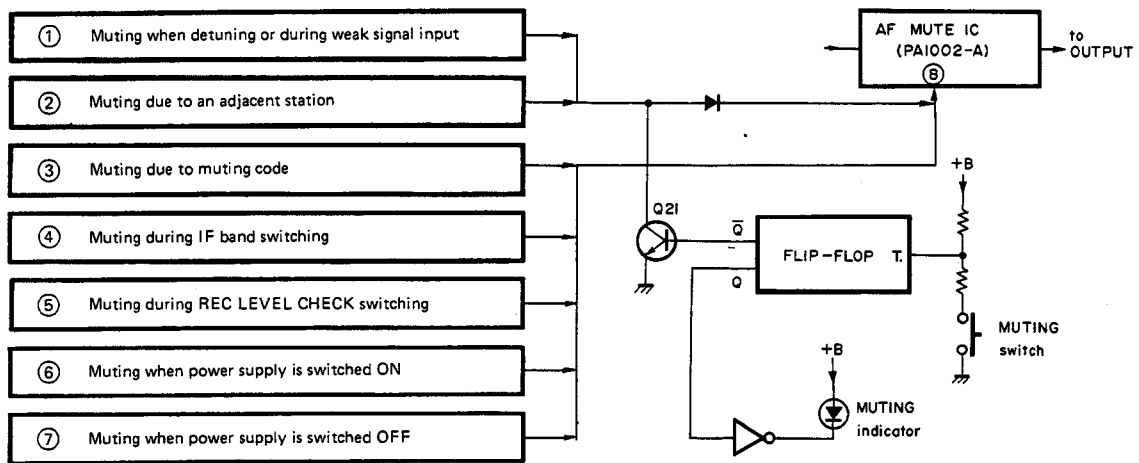

Fig. 15 Muting control circuit block diagram
Fig. 15 is the muting control circuit block diagram. Muting action is effected by turning on and off the electronic switch contained in the AF MUTE IC (PA1002-A) used as the output amplifier. Muting modes ① and ② are not effective when Q₂₁ is on. Muting modes ③ to ⑦ are effective regardless of the state of Q₂₁. The on/off states of Q₂₁ are controlled by the muting switch (Refer to control of circuit control using key switches.).